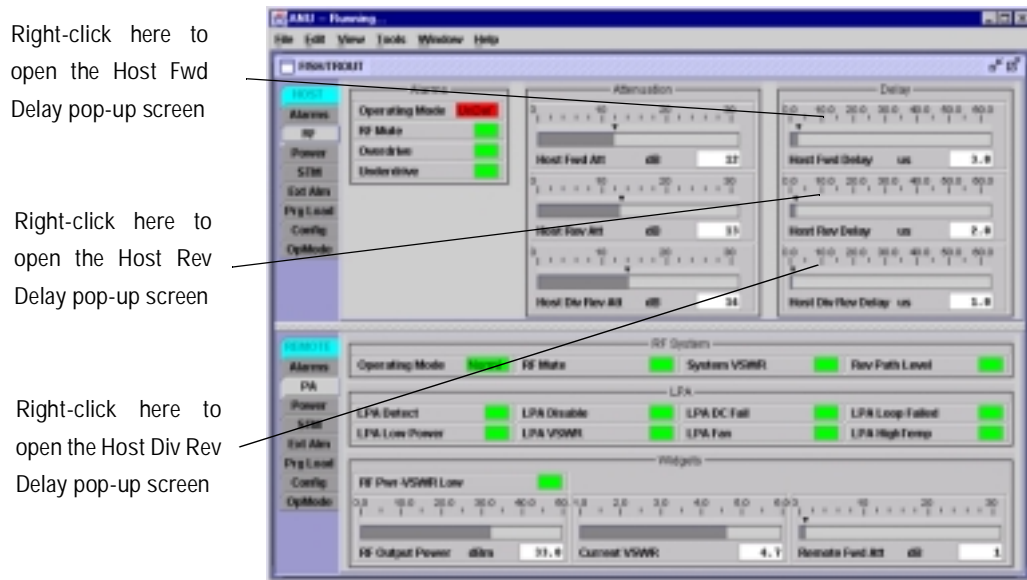
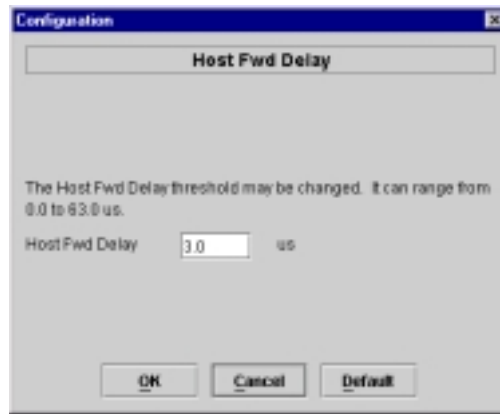

Figure 4-8. HOST RF Display
Figure 4-9. Host Fwd Delay Pop-Up Screen
1. Click on the **HOST RF** tab. The **HOST RF** display will open within the EMS main window as shown in Figure 4-8.
2. Right-click on the **Host Fwd Delay** section of the display (see Figure 4-8). The **Host Fwd Delay** pop-up screen will open as shown in Figure 4-9.
5. Repeat the process for reverse delay and diversity reverse delay by right-clicking on the appropriate delay section (see Figure 4-8) and then entering the required delay value in the pop-up screen.